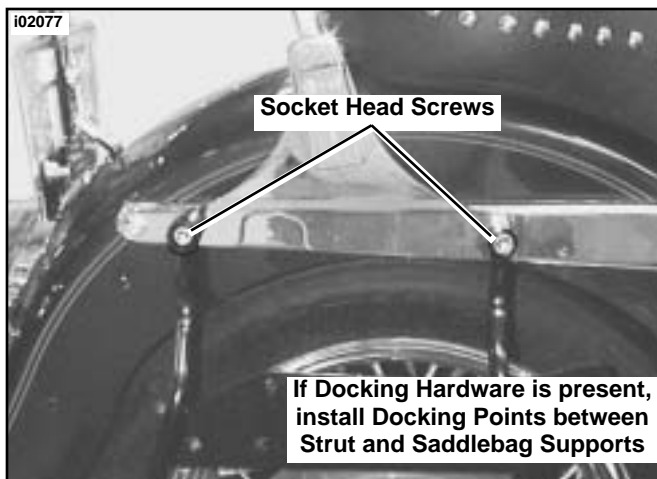

Figure 4. Install Saddlebag Support Screws
- See Figure 4. Install saddlebag support to strut and fender as shown using two socket head screws and: